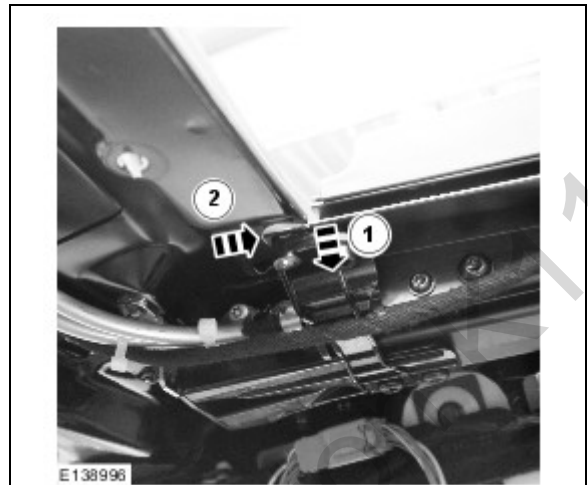

Figure 6
8. Install the middle washer. (Figure 6)